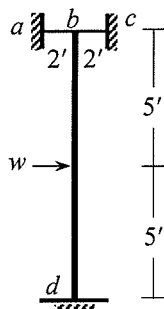

Fig.9
8. Frame structure $abcd$ shown in **Fig.9** is subjected to a dynamic load, $w = 10t \text{ (k/ft)}$. Use *Constant Average Acceleration (CAA)* Method to calculate the rotation of joint b at time $t = 0.10 \text{ sec}$